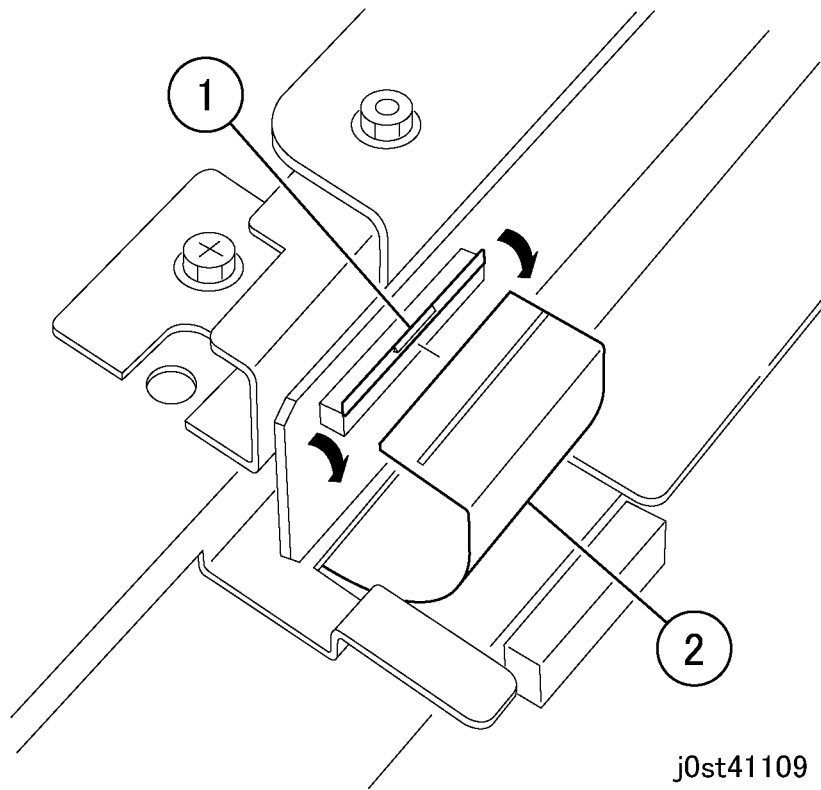

Figure 3 Disconnecting the CCD Flat Cable (j0st41109)
4. Disconnect the CCD Flat Cable. (Figure 3)